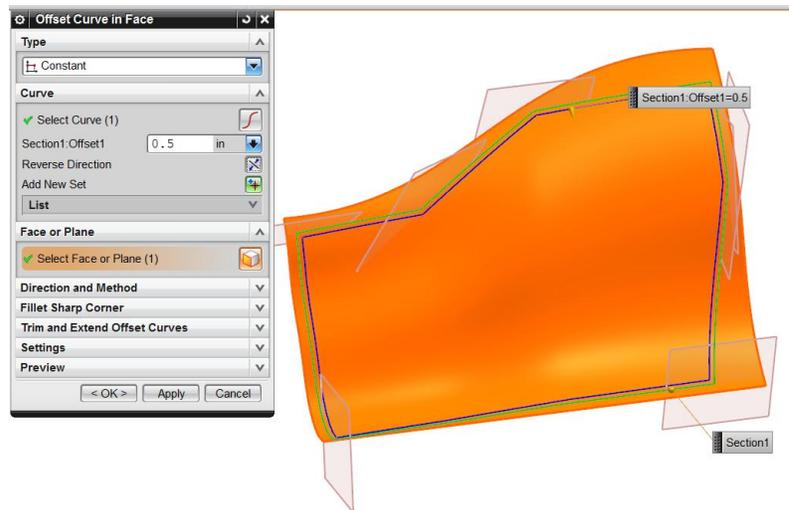

Figure 2–11
- Enter [0.5] (12.7mm) for *Section1:Offset1* as shown in Figure 2–11. Click on  (Reverse Direction), if necessary, to match the Figure 2–11.